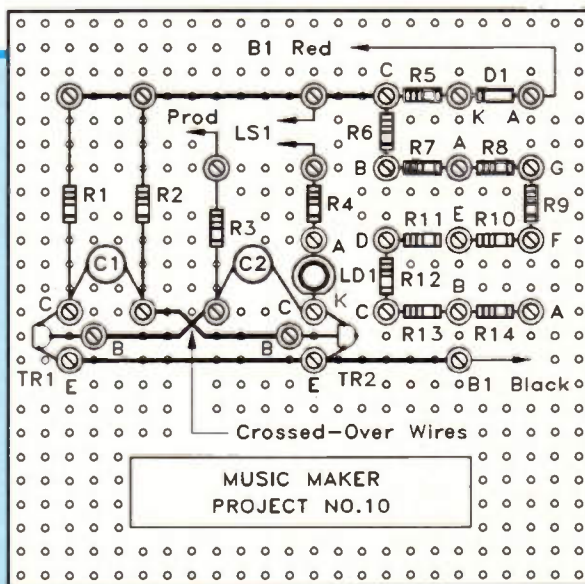

Figure 2. The component guide-sheet for the Music Maker.
1. Cut out the component guide-sheet provided with the kit (which is a full-size copy of Figure 2), and glue it to the top of the plastic board. Paper glue or gum should be okay. Do not soak the paper with glue, a few small 'dabs' will do.